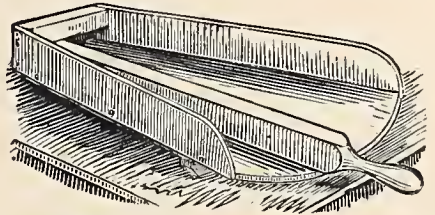

Fig. 464.—Lever Butter-Worker.
*The Lever Butter-Worker*, represented by *Fig. 464*, should be more generally used in butter-making. Its advantages are, that the butter can be kept cool in working, and the necessity of using the hands avoided: the butter-milk may be more thoroughly worked from the butter, and the salt worked in more evenly. It is easily cleaned, takes but little room, and is sold at a low price. The lever is round and fluted. Three sizes are made.